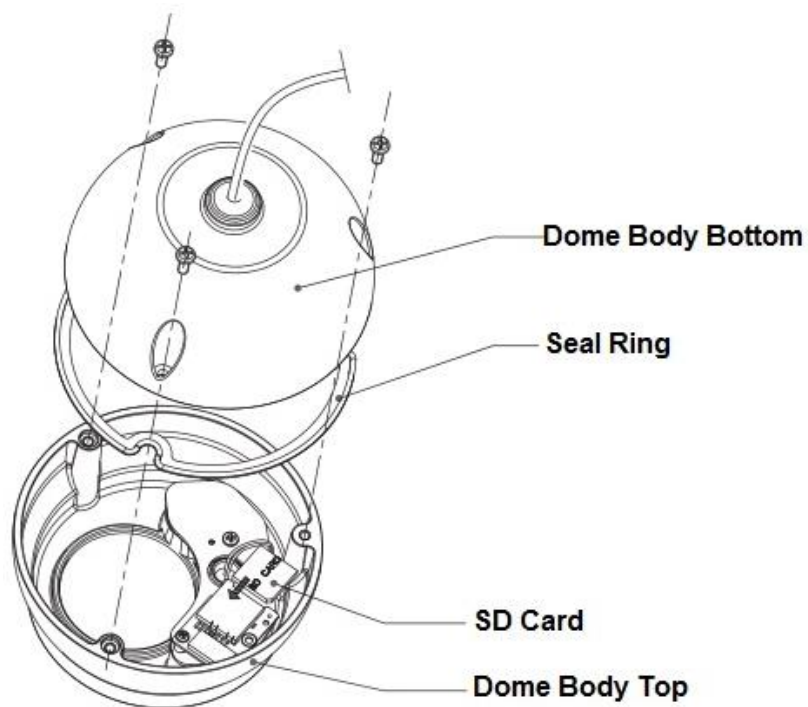
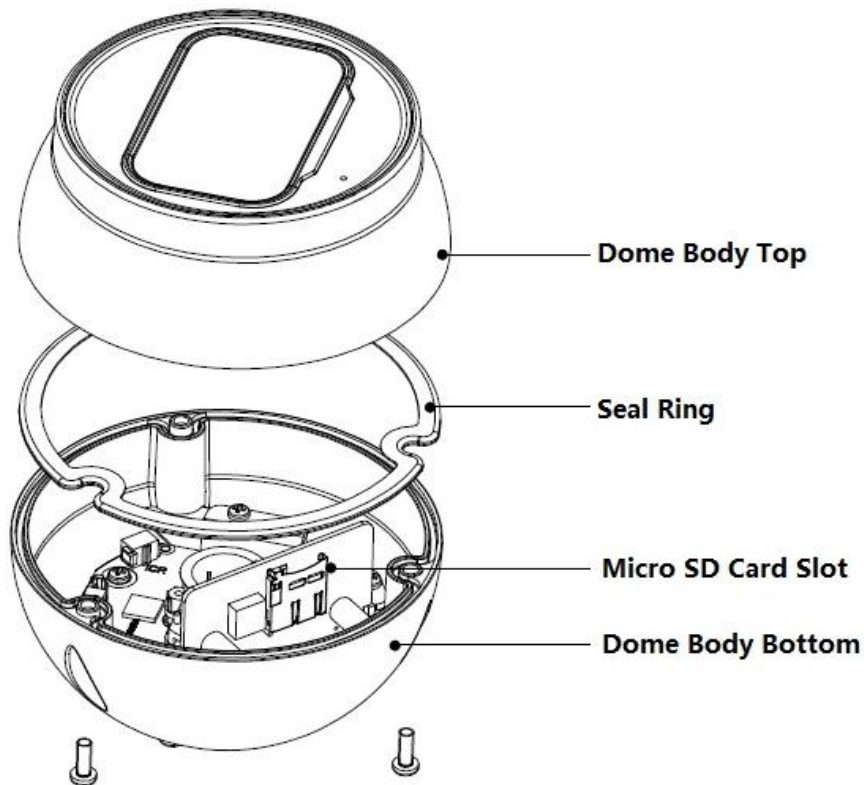

Figure 2-4
Figure 2-5
3. Find the location of Micro SD card slot which is shown in Figure 2-4 and Figure 2-5, adjust the direction of Micro SD card, insert it into the card slot and install the Micro SD card properly.